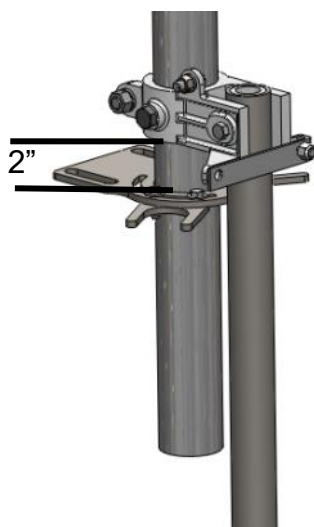

Figure 23 — Swing handle centered in front of locking plate
- 5. Loosen the clamping bolt and piercing screws. Without rotating the vertical operating pipe, move the handle clamp so that it is 2 inches above the locking plate and the handle is centered in the front of the locking plate as shown in Figure 23. Tighten the clamping bolt and pierce the piercing screws.